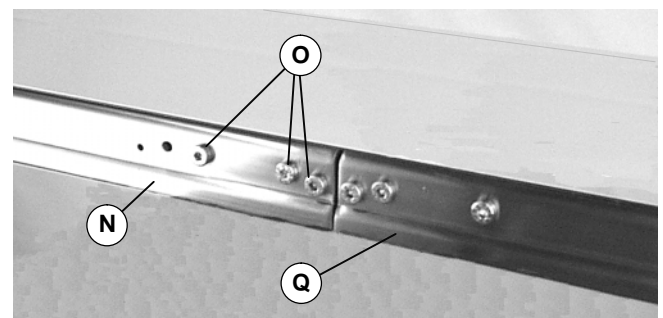

Figure 8
5. Join conveyor sections (N & Q of Figure 8). Install screws (O) on both sides. Tighten to 60 in-lb (7 Nm).